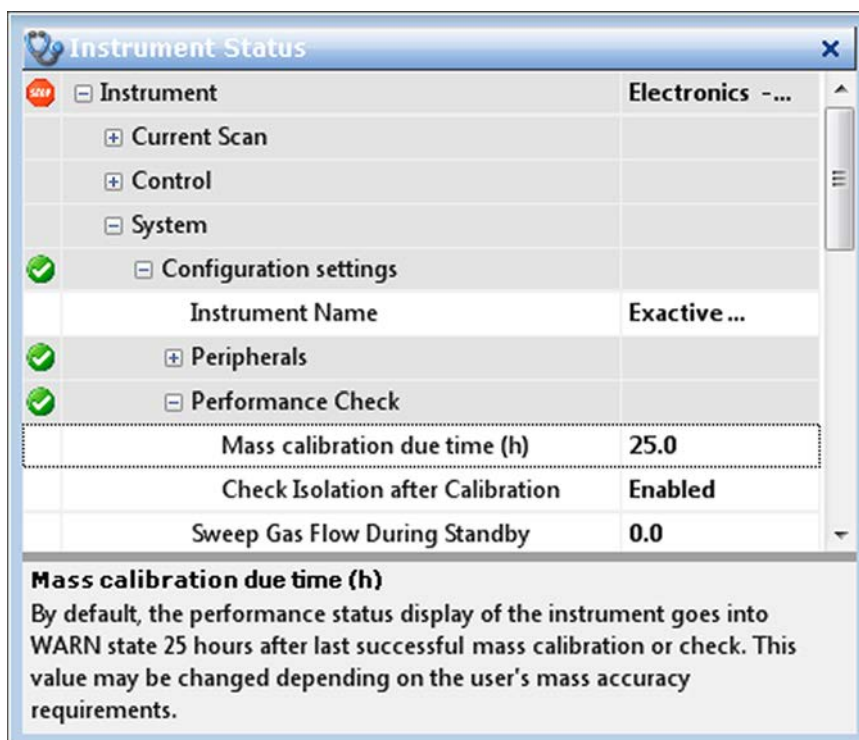

Figure 5-11. Instrument status window—Performance Check node
2. In the instrument status window, click **Instrument > System > Configuration settings > Performance Check**. The Mass calibration due time (h) field displays the current validity period of the mass calibration (25 hours, for example). See Figure 5-11.